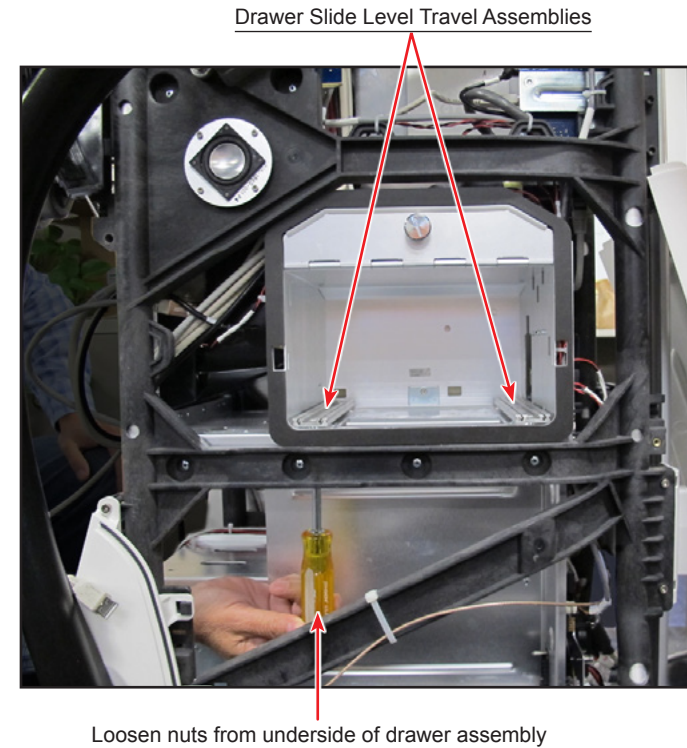

Figure 3-60 Location of Nuts Securing Drawer Slide Level Travel Assembly to Chassis
- 46.3 Remove two 7 mm nuts securing each Drawer Slide Level Travel Assembly to chassis (see Figure 3-60). Nuts are accessed from underside the drawer assembly.